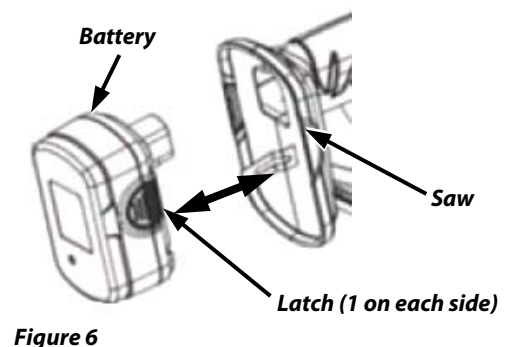

Figure 6
1. Install the Charged Battery Pack in your NEUTON Battery-Powered Pole Saw by aligning the connector on the Battery Pack with the receptacle at the rear of the Saw and insert the Battery Pack (**Figure 6**) until the Latches on each side of the Battery Pack snap into place; assuring a secure connection to the Saw. Again, the Battery Pack and Saw Housing have keyways so they will fit together only one way.
2. To remove the Battery Pack, simply press both Latches on sides of the Battery Pack to release the Battery Pack from the NEUTON Battery-Powered Pole Saw Housing (**Figure 6**) and pull the Battery Pack straight out.